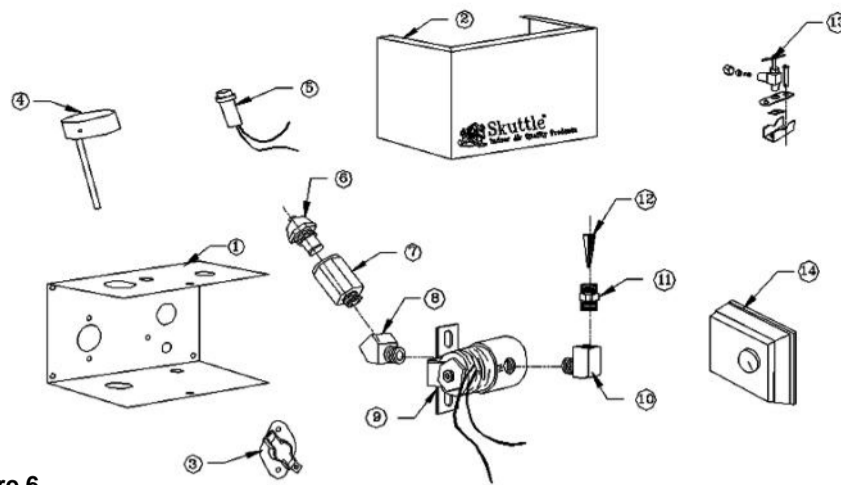

Figure 6
8.0 Parts may be ordered through your local heating or plumbing dealer. (See Figure 6, right, top).